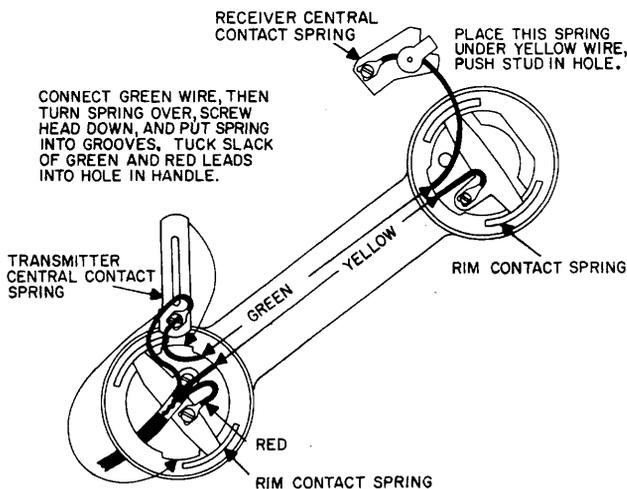

Figure 6. Internal Wiring for Type 81 Handset.
- (d) Loosen the terminal screw on the central contact spring and rim contact spring and disconnect the green and red leads (Figures 6, 7, and 8).
- (f) Loosen the terminal screws at the receiver end (Figures 6, 7, and 8) and remove the cord lead.
NOTE: Some Type 81 handsets have a separate spade-tipped green wire connected to the transmitter central contact spring and receiver central contact spring (Figure 6). This wire must be removed. Others are equipped with a Type 810/811 handset cord, with a separate black conductor connected to the receiver central contact spring. The green lead of the replacement handset cord (3HA6) is of sufficient length to reach the receiver cavity and has two spade terminals so that it can be connected at both the transmitter central contact spring and receiver central contact spring.